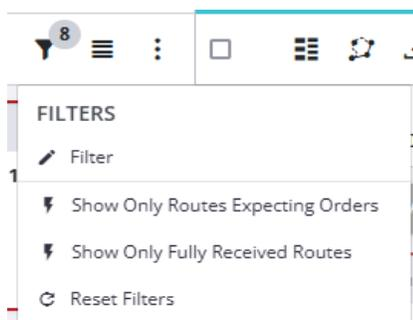

Figure 54 - Fast filters and Reset option
3. Click *Done* when you are finished filtering, or *Reset* to clear filters (see *Figure 54* below).
5. Click *Done* when you are finished filtering, or Select *Reset* to clear filters (see *Figure 54* below).